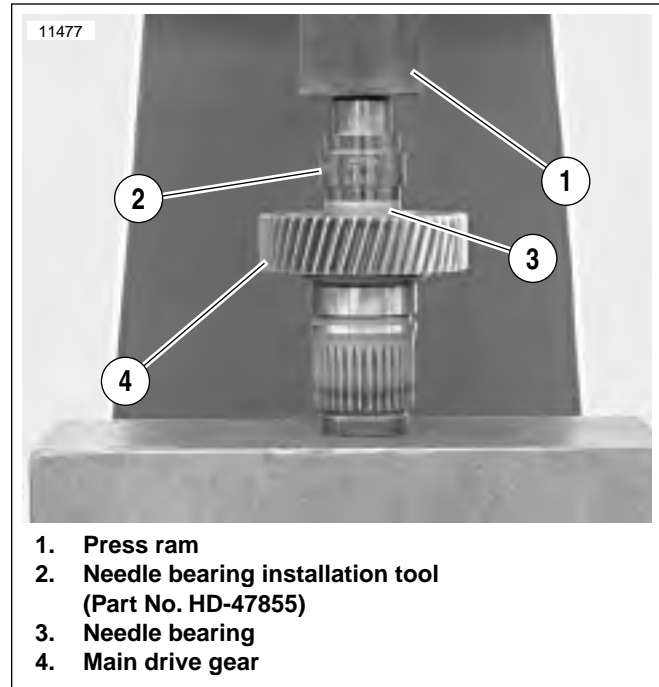
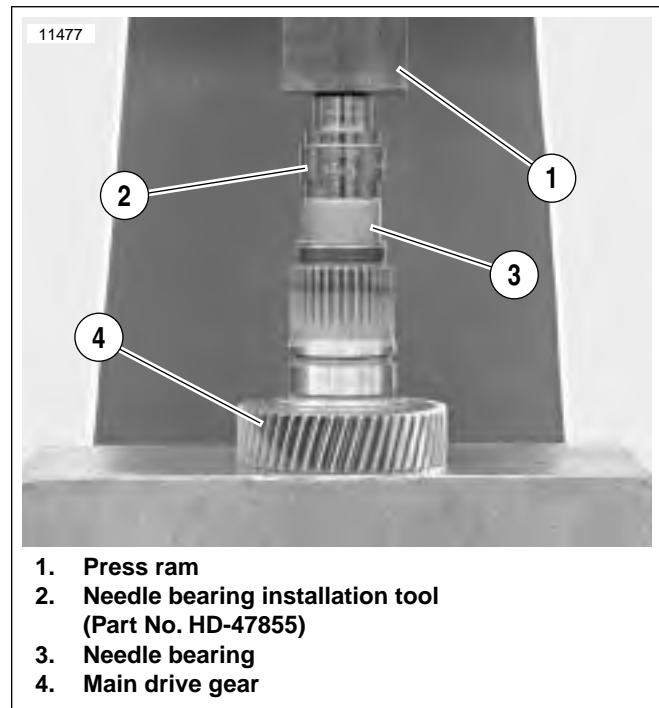

Figure 6-72. Pressing Inner Needle Bearing Assembly into Main Drive Gear
Figure 6-73. Pressing Outer Needle Bearing Assembly into Main Drive Gear
2. See Figure 6-72. Place main drive gear (4) on press bed with gear end facing up.
3. Place needle bearing (3) squarely into end of drive gear. Insert installation tool (2) with end stamped "INNER" facing needle bearing.
6. See Figure 6-73. Place main drive gear (4) on press bed with gear end facing down.
7. Place needle bearing (3) squarely into end of drive gear. Insert installation tool (2) with end stamped "OUTER" facing needle bearing.